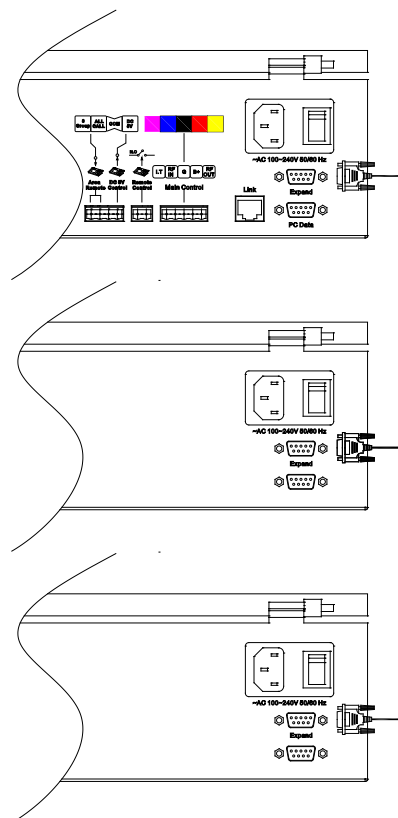

Fig. 7 WMP-2100A Connection
- 4.Please refer to Figure 7 for connection instructions.